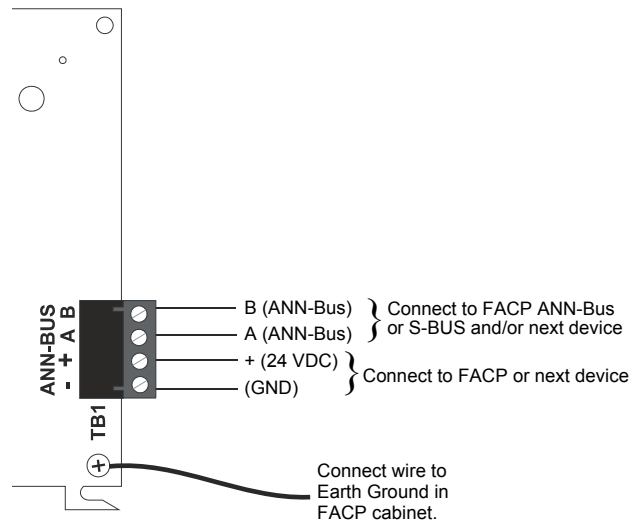

Figure 8 Wiring ANN-LED Series to FACP
Refer to Table 1.2 and Figure 8 for wiring connections.
6. For Canadian applications, remote modules must have a wire connected from the ANN-LED circuit board (refer to Figure 8) to a solid earth ground in the FACP cabinet. For multiple modules, daisy chain the wire connection.